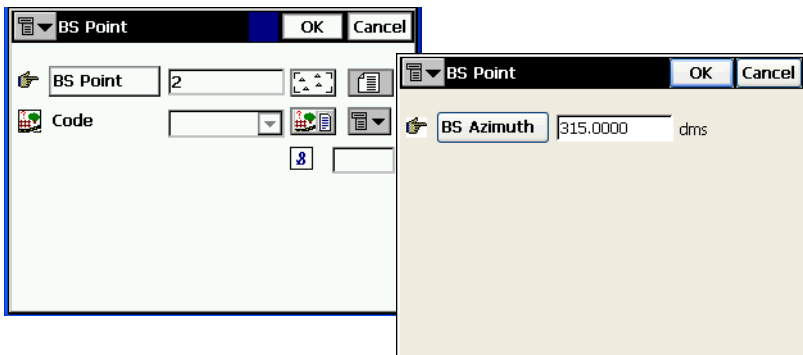

Figure 7-20. BS Point
- **BS Point**: displays the **BS Point** screen for entering the Backsight Point or Backsight Azimuth (Figure 7-20 on page 7-15). If a BS point has not been entered, an Azimuth is required. In this case, if an angle value is entered as *Angle Right*, *Angle Left*, or *Deflection*, this value will be considered as azimuth.